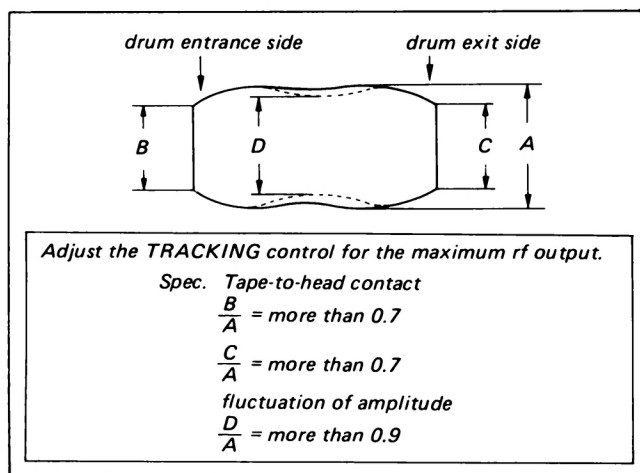

Fig. 8-3. Tape path adj.
5. Confirm that the RF output waveform displayed on the scope meets the specification required shown in Fig. 8-3 when it is made to maximum by turning the tracking control. If it does not, proceed to Step 6.